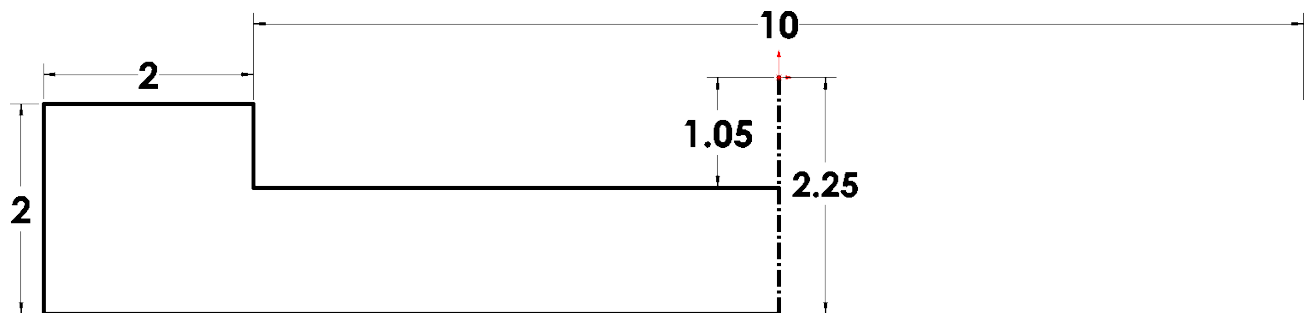

Fig. 4
Step 10. Add dimensions, **Fig. 4**. Dimension double distance dimension across horizontal line last. To double distance dimension, click the vertical line and then the centerline, move the cursor to right side of the centerline and click. Key-in 10 and press ENTER.